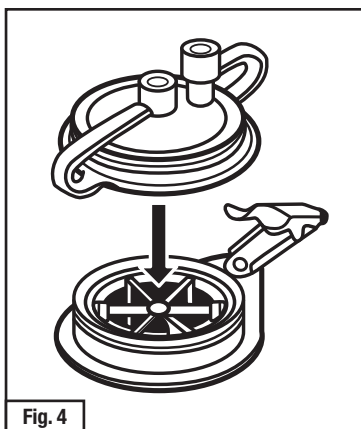

Fig. 4
6. **3500/3510 and 3550/3551:** Snap elution cap (with plugs) onto main monitor body (Fig. 4). Be sure the two port plugs are secured. Record final sampling time on the back of monitor. Monitor is now ready for shipment.